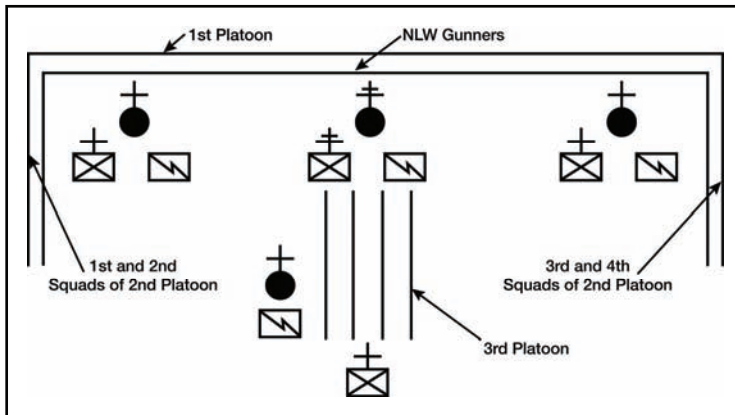

Figure 191-410-0078-5. Company line, one platoon in lateral support, and one platoon in general support
f. Form the company into a company echelon right (or left) formation with one platoon in lateral support and one platoon in general support (figure 191-410-0078-6).